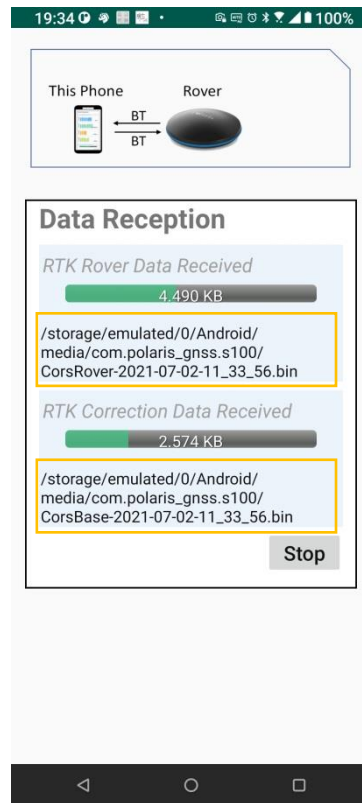

Figure A-12
4. Wait 15 minutes, to log 15 minutes of data for analysis. The saved files can be found in /Android/media/com.polaris\_gnss.s100/ folder. See Figure A-12.